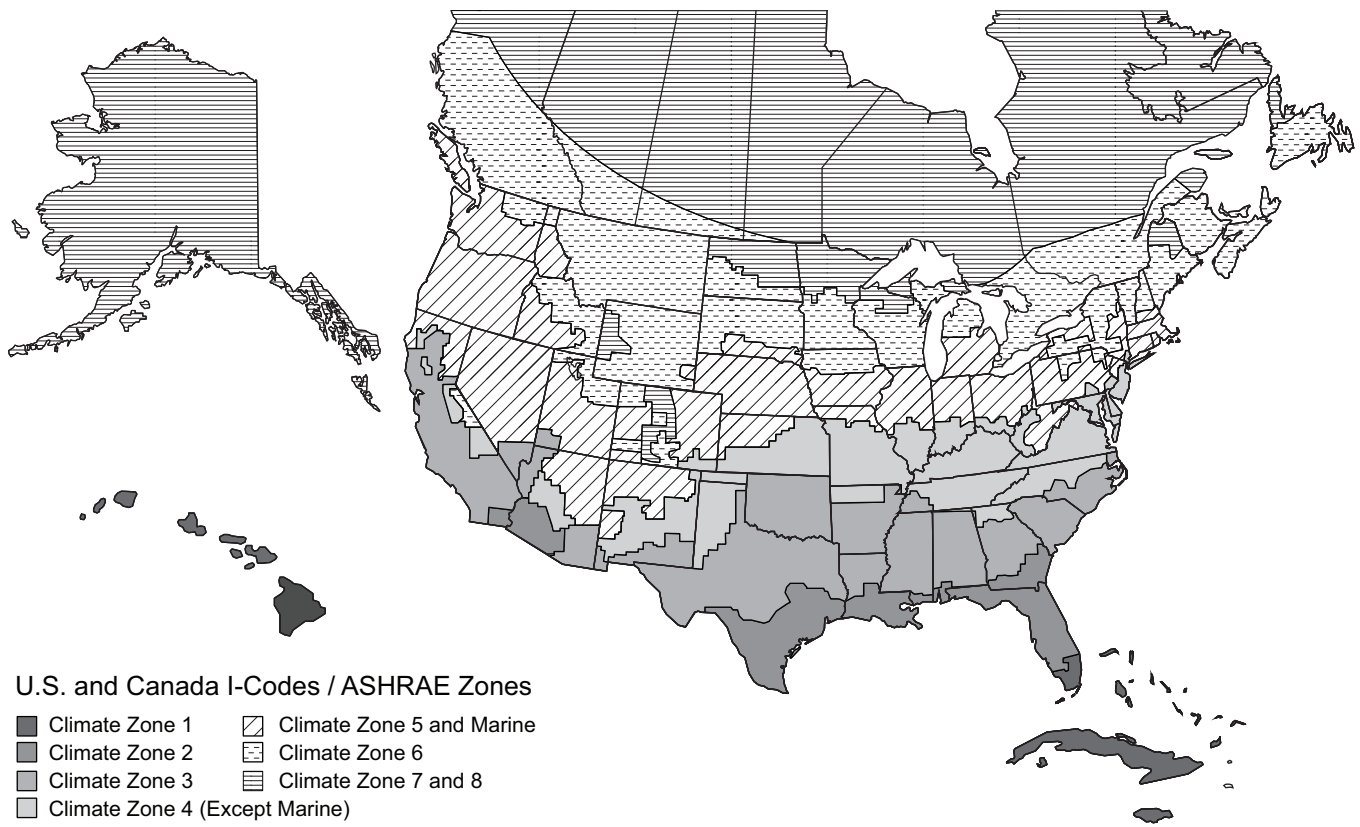

Fig. 87 — U.S. and Canada Climate Zones
- a. Refer to Fig. 87 for map of U.S. and Canada climate zones.